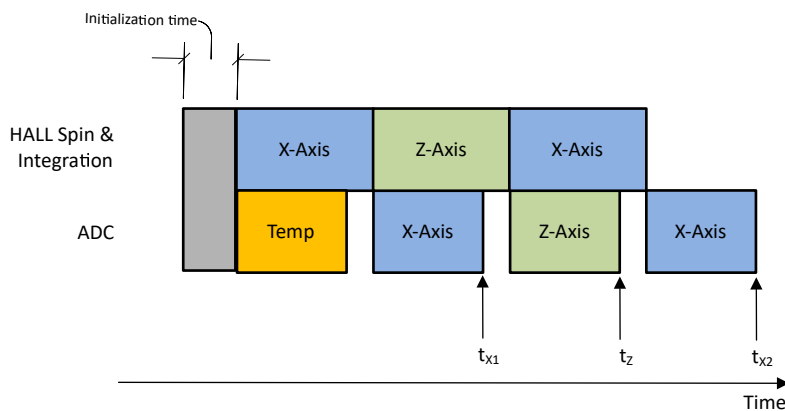

Figure 7-3. XZX Magnetic Field Conversion
In absolute angle measurement, application sensor data from multiple axes are required to calculate an accurate angle. The magnetic field data collected at different times through the same signal chain introduces error in angle calculation. The TMAG5170D-Q1 offers pseudo-simultaneous sampling data collection modes to eliminate this error. Figure 7-3 shows an example where MAG_CH_EN is set at 1101b to collect XZX data. Equation 7 shows that the time stamps for the X and Z sensor data are the same.
- t_{X1} , t_z , t_{X2} are time stamps for X, Z, X sensor data completion as defined in Figure 7-3.